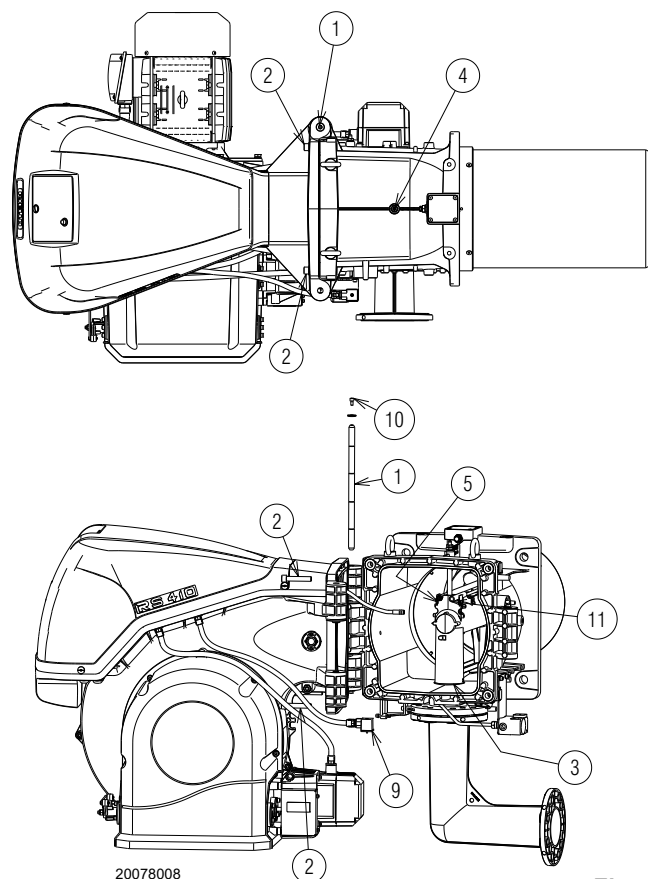

Fig. 16
The burner leaves the factory set for opening to the left, therefore maintaining the pin 1)(Fig. 16) in the housing.
- A** Disconnect the plug/socket 9)(Fig. 16) of the maximum gas pressure switch;
- D** Fully open the burner as in Fig. 16;
To open the burner from the opposite side, before removing the pin 1)(Fig. 16), make sure that the 4 screws 2) are tight. Then shift the pin 1) to the opposite side, only then is it possible to remove the screws 2). Disconnect the socket 9 (Fig. 16) of the maximum gas pressure switch, then proceed as described above at point **C**).